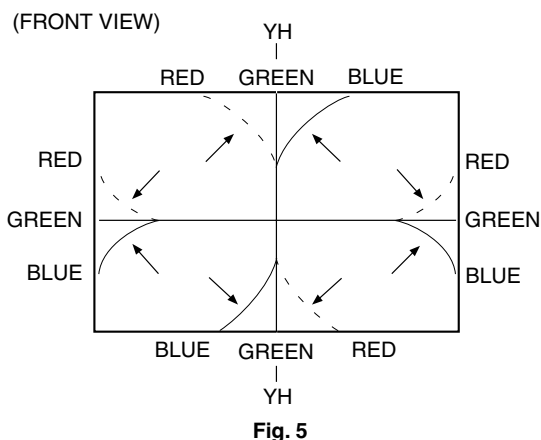

Fig. 5
1. Using the  $Y_H$  VR on the deflection yoke, match the  $Y_H$  (CROSS). (Fig. 5 and 8)